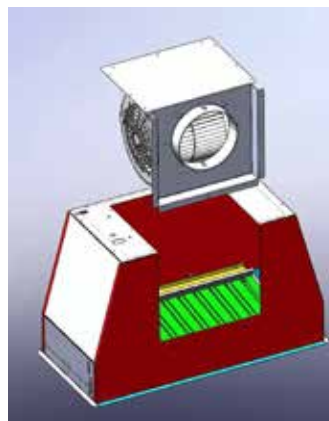

Fig.8a
- All the models with one motor can be rear vented; if the customer wants to use this option, it is necessary to remove the 18 10mm screws from the motor group support. Then take the metal support with motor included out (Fig.8a).